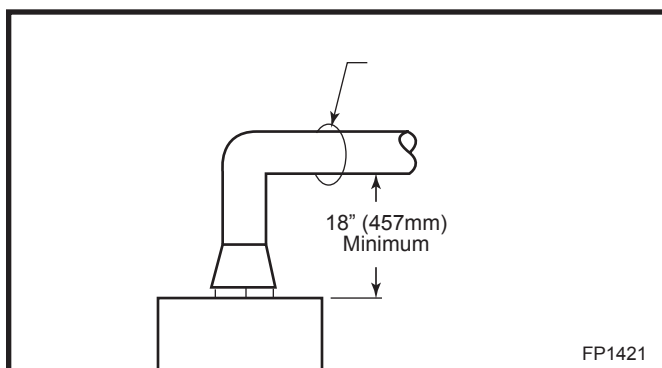

Fig. 5 An 18" (457mm) minimum vertical rise is necessary before a 90° elbow.
4. Allow for a minimum of 18" (457mm) vertical rise off the top of the appliance before the vent makes a 90° elbow to the horizontal. (Fig. 5)